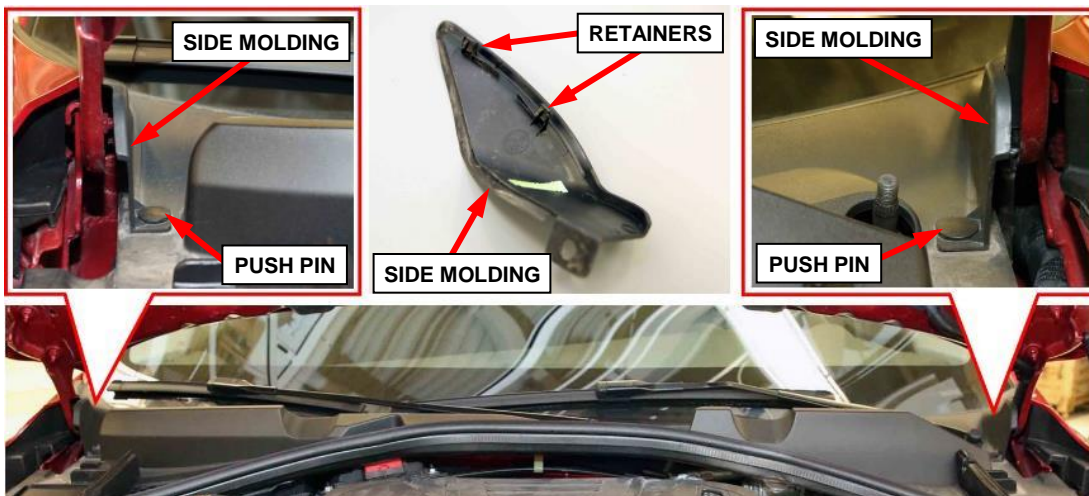

Figure 6 – Cowl Trim Side Moldings
8. Remove the push pin rivet fastener from both side moldings (Figure 6).
9. Remove both side moldings by releasing the retainers (Figure 6).
NOTE: Ensure the retainers remain on the side molding (Figure 6).
13. Install the right and left cowl trim side moldings by engaging the retainers (Figure 6).
14. Install the push pin rivet fastener to secure the right and left cowl trim side moldings (Figure 6).